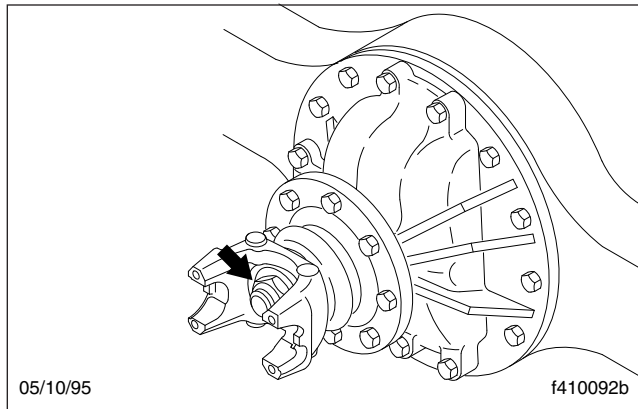

Fig. 16, Axle End-Yoke Locknut
1. Apply Loctite® 242 to the input- or output-shaft threads where the end-yoke locknut will be installed. See **Fig. 16**.